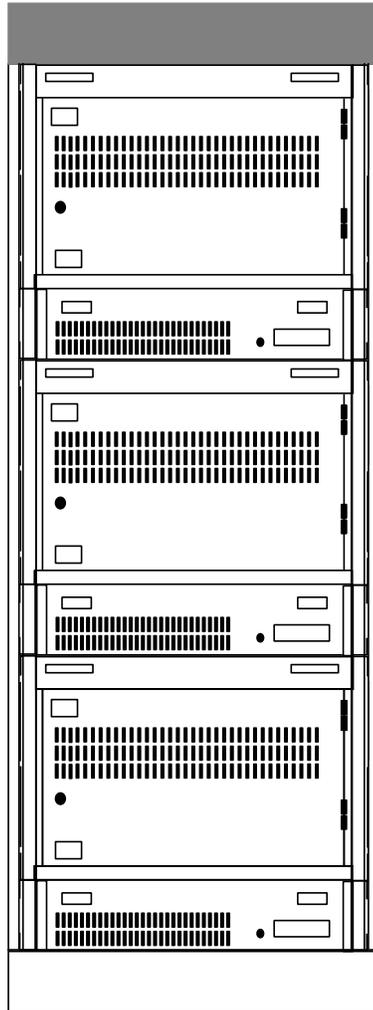

Figure 2-5. Multiple MAP/100Cs in a Common ESS Open Frame, Front View
8. Attach the two cabinet frame dress filler panels (A10070 and A10071) to the frame under the mounting brackets (Figure 2-5).
The Common ESS cabinet can hold one, two, or three MAP/100C (Figure 2-5). If you are installing only one MAP/100C, it is recommended that you install it in the center of the frame for easier access and better stability.